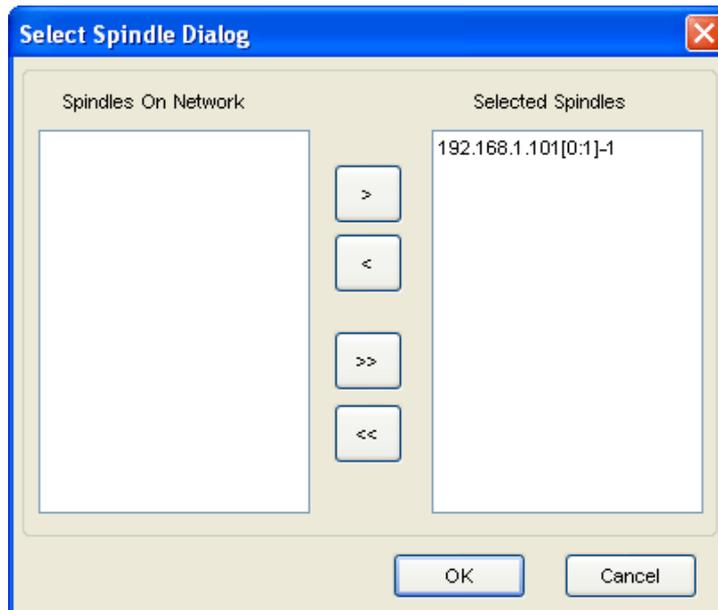

Figure 47 - Select Spindle Dialog
1. Click the Filter button on the **Runmain View All** screen to display the **Select Spindle Dialog** screen shown in *Figure 47*.